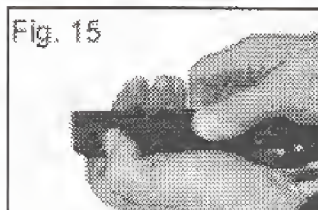

Fig. 15
3. Remove the lower barrel shroud by depressing the lower barrel shroud detent and sliding the shroud down and forward and away from the frame. (See Fig: 15)